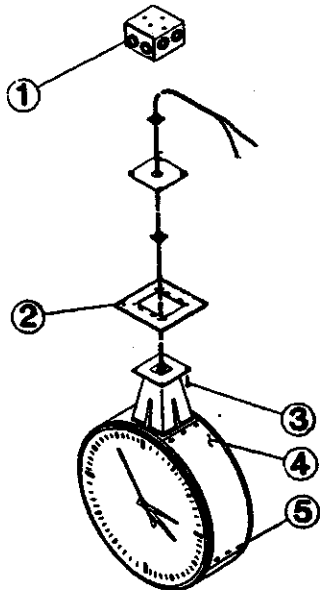

Figure 5: Double Mount Installation For 15" Round Clock
1. Install wall box (Fig. 5 & 6, #1) into wall or ceiling and pull power wires into box.
3. Attach wall box adaptor plate (Fig. 5 & 6, #2) to wall box with (4) #8-32 x 1" long screws (Fig. 5 & 6, #3).
5. Remove (3) #6-32 screws (Fig. 5, #5) that secure either access panel (Fig. 5, #4). The panel can now be moved to set time, using setting knob on back of each clock.